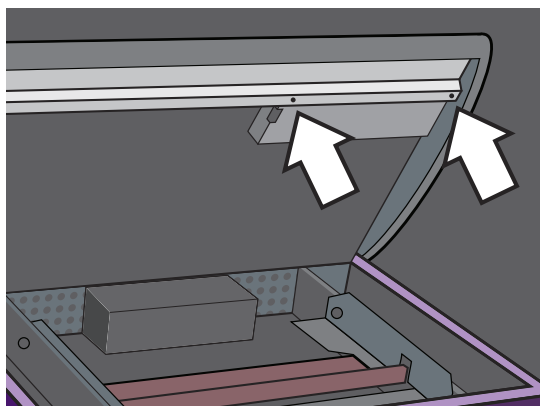

FIGURE 34
2. Remove the metal strip from the front underside of the cover by removing its two screws. (figure 34)